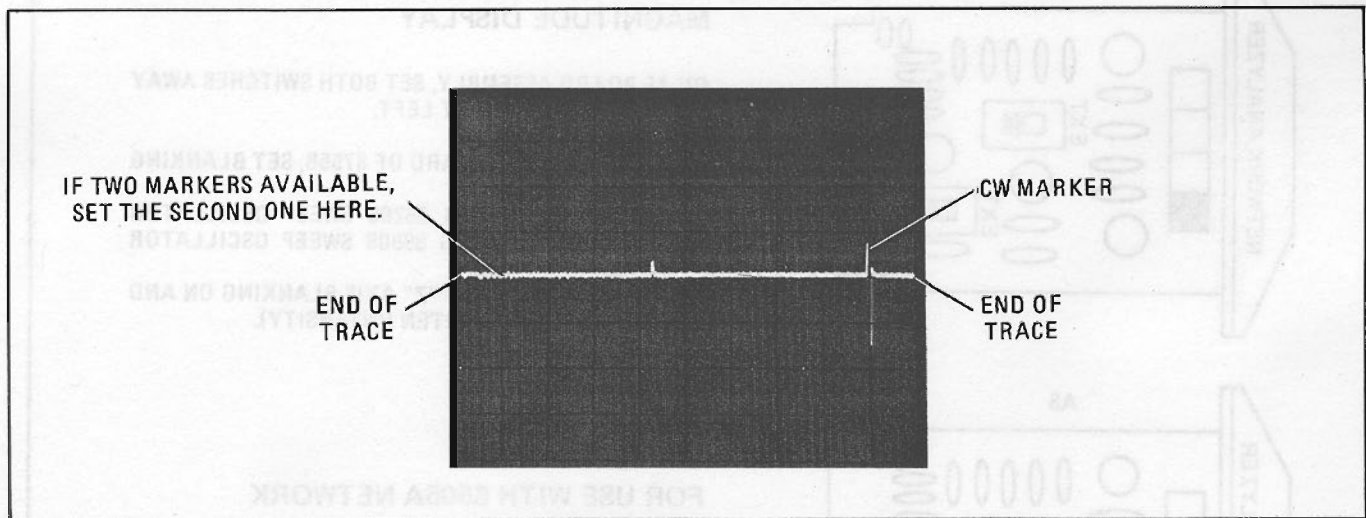

Figure 3-7. Horizontal Display Adjustment
- 5. On 8620C Sweep Oscillator, set start-stop for full band and set CW MARKER to a position on CRT one line from the right edge of CRT graticule. (See Figure 3-7.)